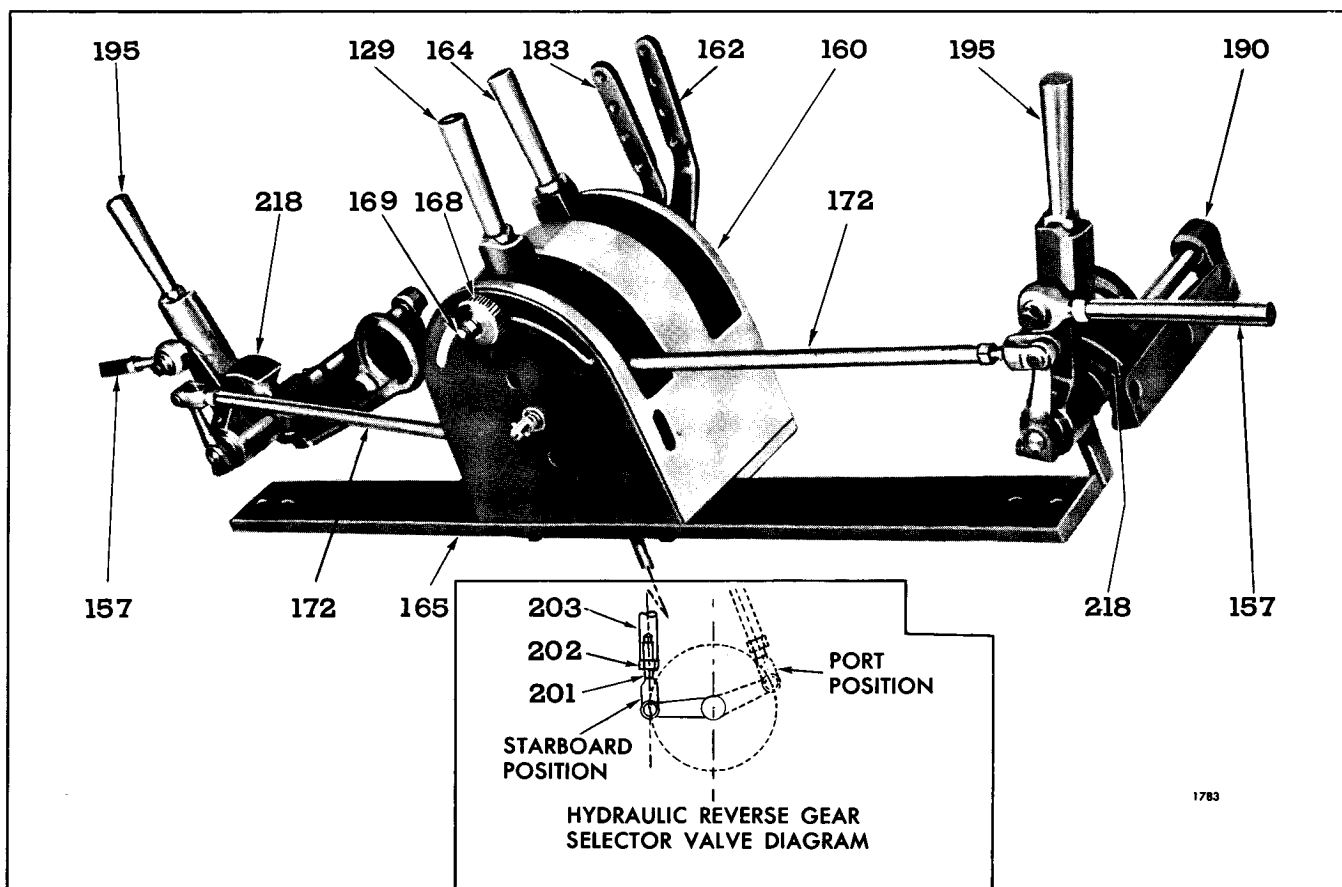
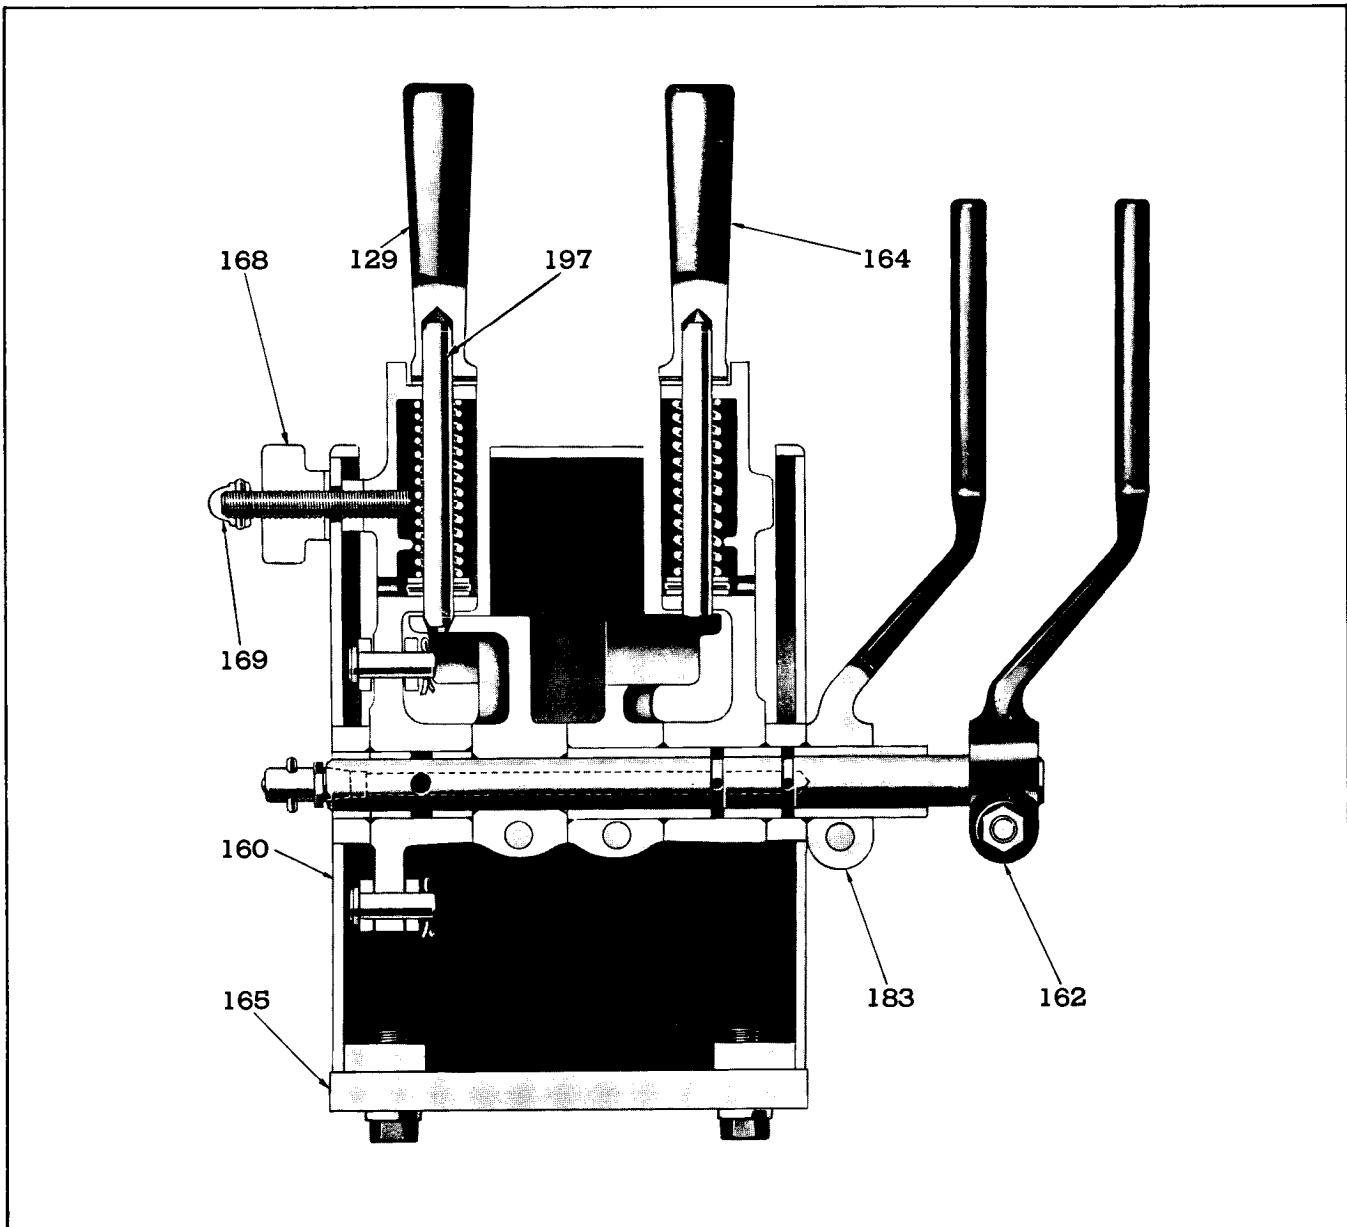

Fig. 6 - Arrangement of Throttle Levers on a Tandem Twin Marine Unit
Fig. 7 - Master Throttle Assembly on a Tandem Twin Unit
Figures 6 and 8 illustrate the arrangement of the throttle and reverse gear controls on Tandem Twin Units, while Figs. 7 and 9 illustrate the master control and individual throttle lever assemblies.
2. Refer to Figs. 7 and 9 and move master throttle lever (129) toward FULL OPEN position until the two clevis pins in the upper and lower arms of the throttle lever shank are in a vertical straight line, as observed through the two holes